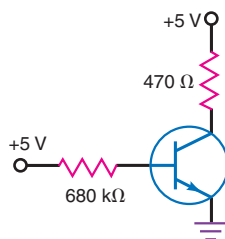

Figure 33-62
- 33.29** In Fig. 33-62, use the circuit values shown unless otherwise indicated. Determine whether the transistor is saturated for each of these changes:
33.30 The $680 \text{ k}\Omega$ in Fig. 33-62 is replaced by $4.7 \text{ k}\Omega$ and a series switch. Assuming an ideal transistor, what is the collector voltage if the switch is open? What is the collector voltage if the switch is closed?